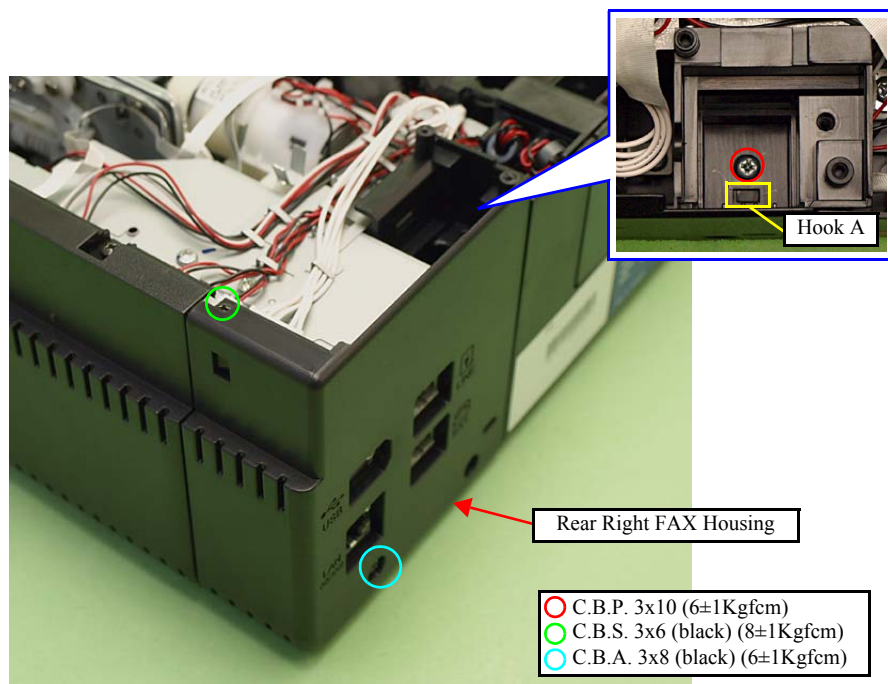
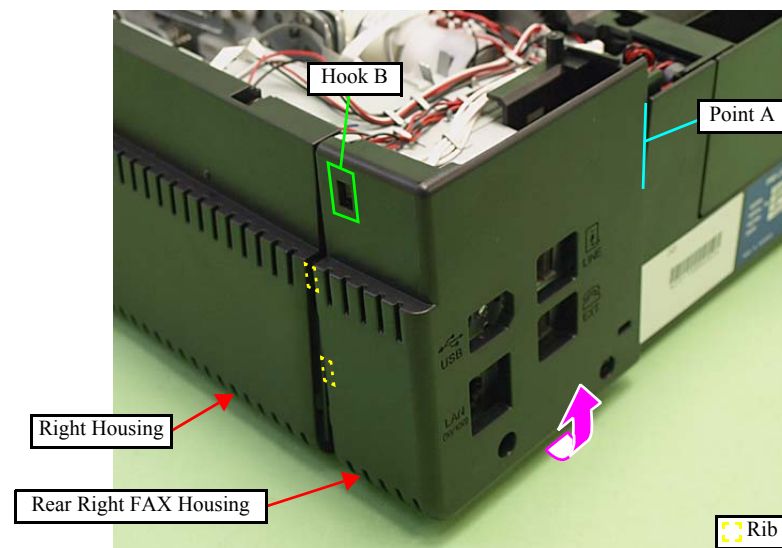

Figure 4-26. Removing the Rear Right FAX Housing (1)
Figure 4-27. Removing the Rear Right FAX Housing (2)
2. Release the ribs (x2) and hook B on the right side, and also release the point A, then remove the Rear Right FAX Housing by lifting it in the direction of the arrow. (See Fig. 4-26, Fig. 4-27.)
- When installing the Rear Right FAX Housing, insert the ribs (x2) of the Rear Right FAX Housing to the inside of the Right Housing. (See Fig. 4-27.)
- When installing the Rear Right FAX Housing, align the point A of the Rear Right FAX Housing with the inside of the Base Frame. (See Fig. 4-27.)